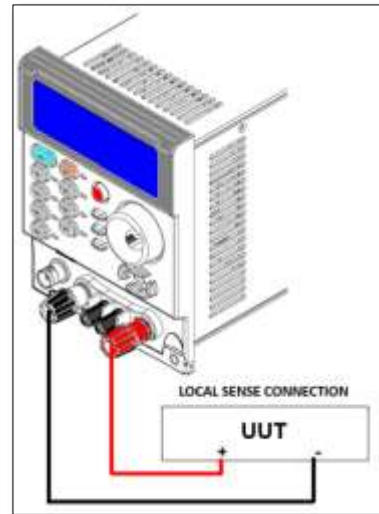

Figure 7-2: DC Load Connection with Internal Voltage Sense
- When connecting multiple output DC power supplies, at all times, the potential of the positive DC load module input (Red binding post) **MUST** be at a higher potential than that of the negative DC load module input (Black binding post). Refer to the example show in Figure 7-2.
When the voltage sense mode is set to internal, the DC load module senses the DC at the input terminals of the DC load. Any voltage drop between the EUT and the load module across the load wires is not detected so the actual voltage at the EUT may be somewhat higher than is sensed by the load. For low current applications, the voltage drop may be negligible. Figure 7-2 shows the load connection with internal sense mode.